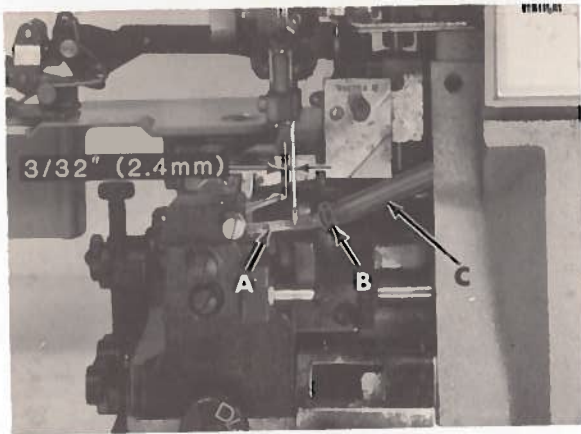

Fig. 9
LOOPER GAUGE - With looper (A, Fig. 9) at extreme left position, distance from looper point to centerline of rear needle should be 3/32 inch (2.4mm) as shown in Fig. 9.
Rotate handwheel to position looper at extreme right end of travel and loosen clamp nut (B, Fig. 9). Rotate handwheel to position looper at extreme left end of travel and set looper gauge by adjusting looper in or out of looper shaft (C). Rotate handwheel and position looper into scarf of rear needle and set looper point to touch but NOT deflect needle. Tighten clamp nut (B) securely and recheck looper gauge.